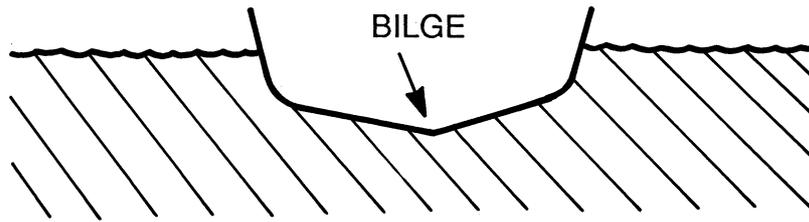

Figure 5:1—The Bilge
- (1) **Benches**—Seats that run fore and aft. These may also provide floatation.
- (2) **Bilge**—The inside bottom of the boat adjacent to the keel. The bilge is also the foul water that collects inside a boat's bilges. (See Figure 5:1).